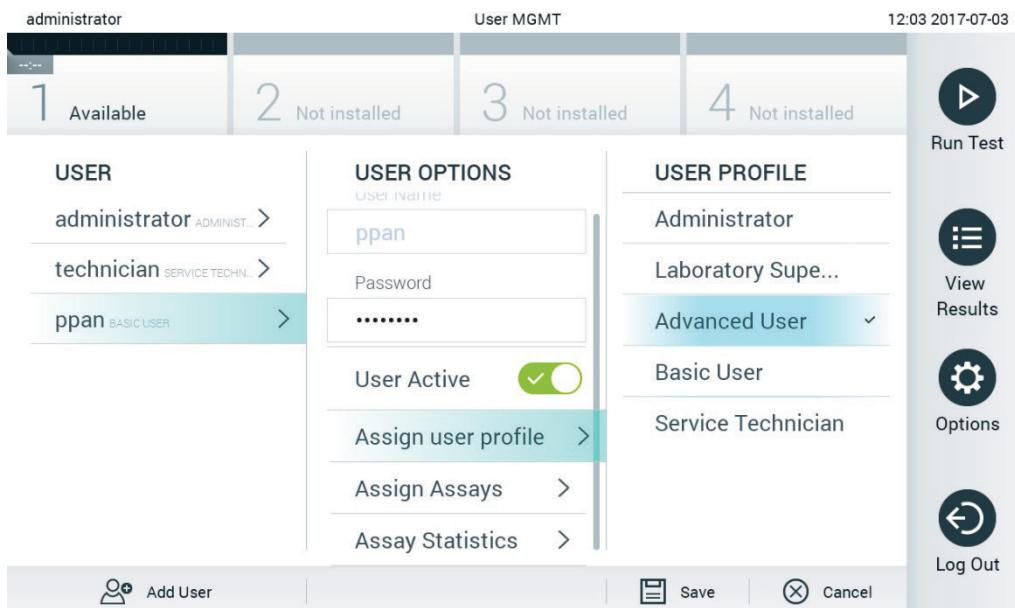

Figure 60. Assigning user profiles to users.
- **Assign User Profile:** Allows assigning a different user profile for that user (e.g., Administrator, Laboratory Supervisor, Advanced User, Basic User). Select the appropriate user profile from the list on the right of the content area (Figure 60, next page).